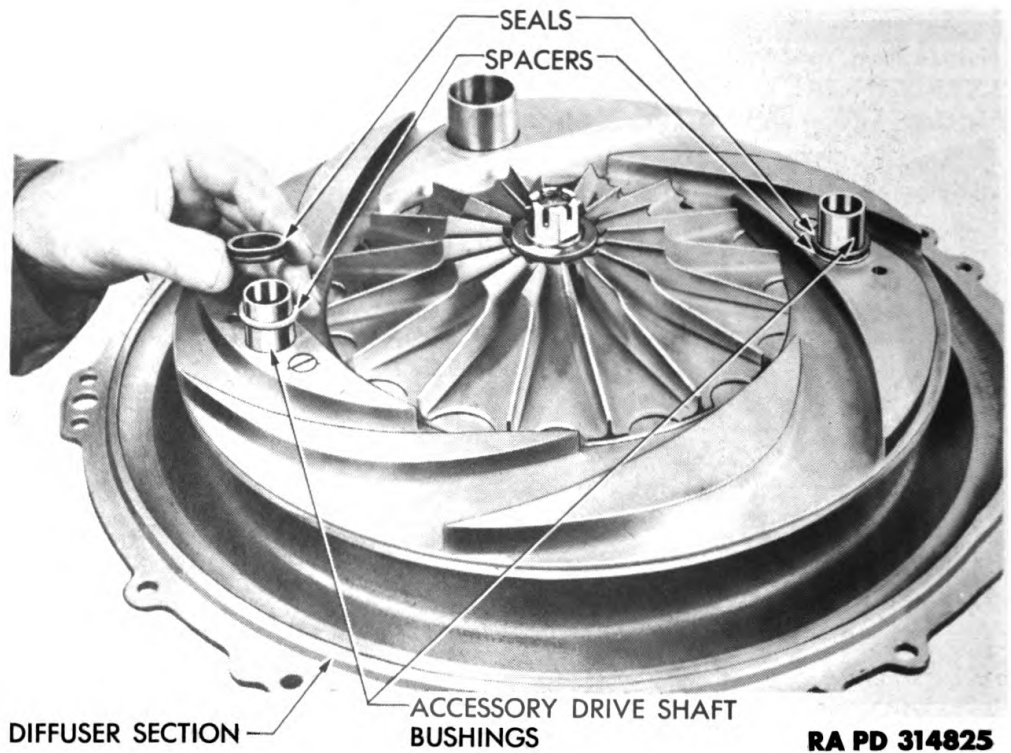

Figure 201 — Installing Spacers and Seals on Accessory Drive Shaft Bushings
h. Install Spacers and Rubber Oil Seals. With rear side of diffuser section facing up on bench, install spacers and rubber oil seals over accessory drive shaft bushings (fig. 201). Press spacers and oil seals down against diffuser ring.